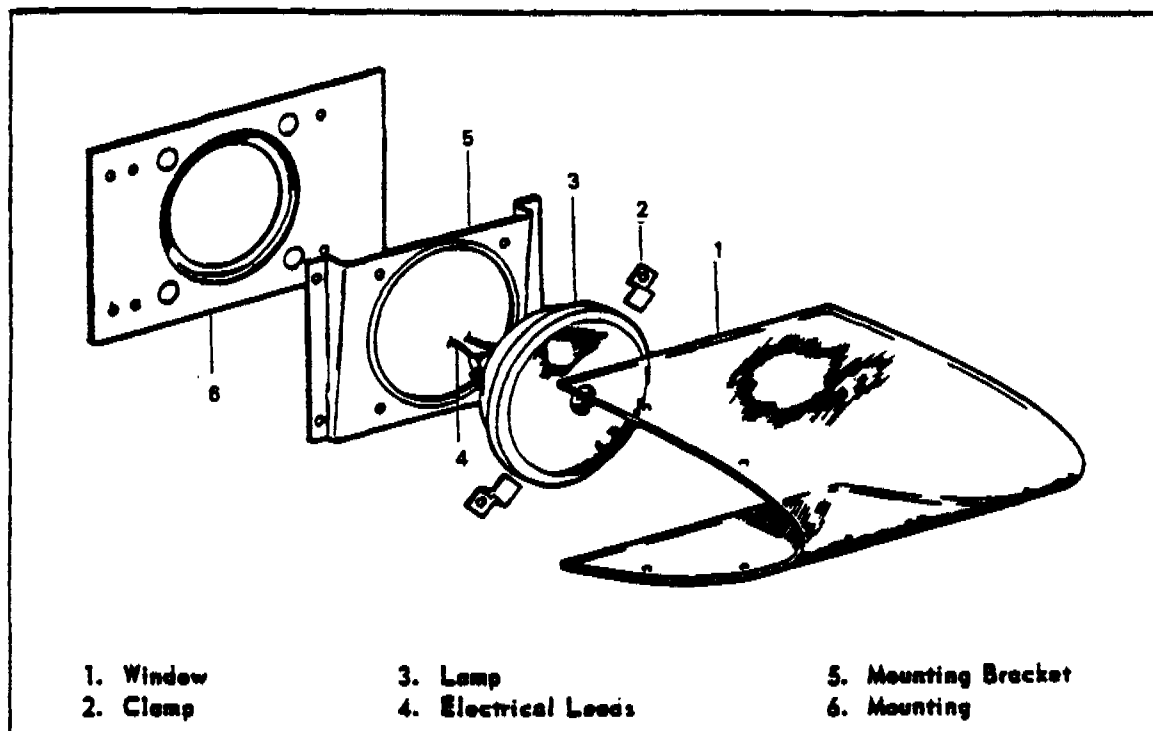

FIGURE 4-1. LANDING LIGHT INSTALLATION
- b. Remove the sheet metal screws from the landing light window assembly (1, Figure 4-1.)
- c. Remove the machine screws and clamps (2) holding the lamp (3).
- d. Pull the lamp forward and remove the electrical leads (4) from rear of the lamp; then remove the clamp.